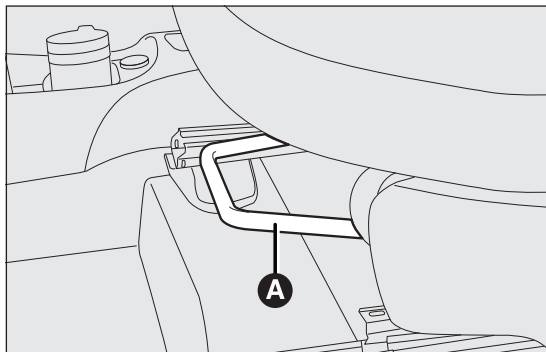
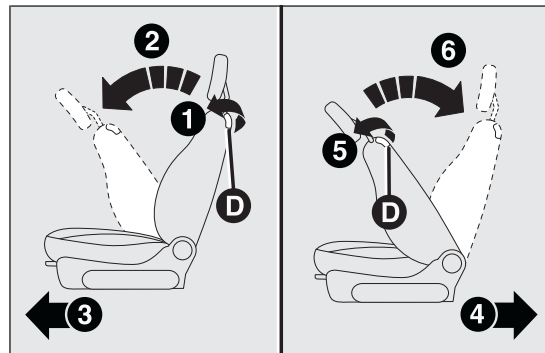

fig. 15
fig. 18
Lift the lever A fig. 15 and push the seat forwards or backwards: in the driving position your arms should rest on the rim of the steering wheel.
To fold the backrest over, adjust lever D fig. 18 (movement 1) and push the backrest forwards until it locks (movement 2); release lever D and, pushing the backrest, slide the seat forwards (movement 3).
To restore the seat to its original position, slide the seat backwards pushing the backrest until the seat locks (movement 4), adjust lever D fig. 18 (movement 5) and raise the backrest (movement 6) until the locking can be heard.
**IMPORTANT** Using lever D fig. 18 before locking the seat in its original position will cause the initial seat position to be lost. In this case the position of the seat must be restored through lengthwise adjustment A fig. 15.
To restore the seat to its original position, slide the seat backwards pushing the backrest until the desired position is reached (movement 4), adjust lever D fig. 18 (movement 5) and raise the backrest (movement 6) until the locking can be heard.